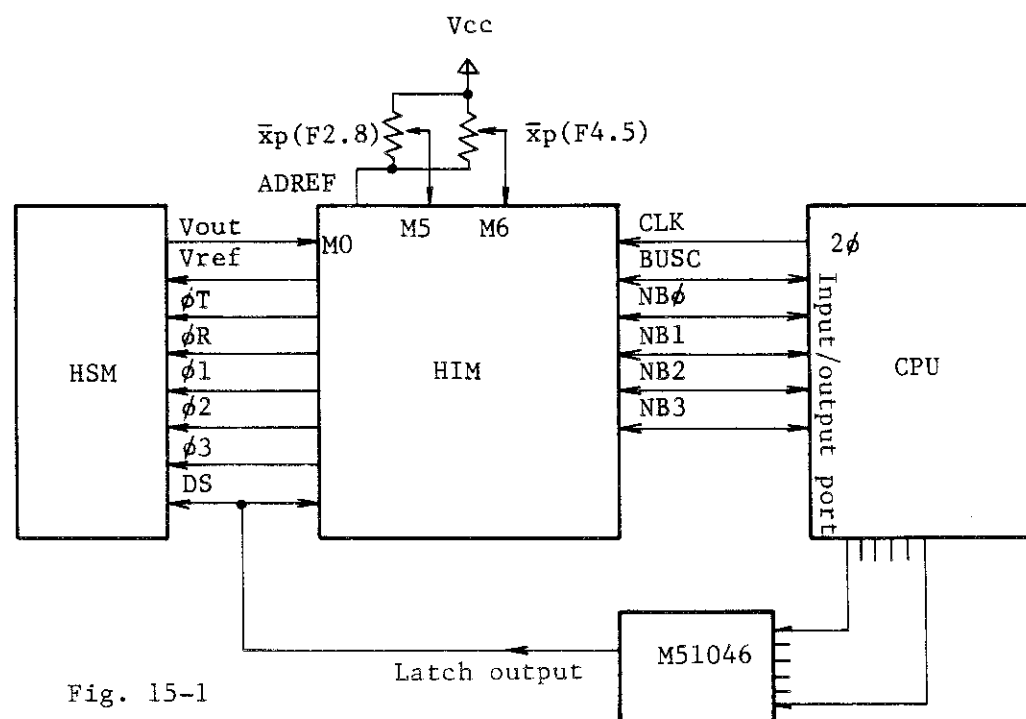

Fig. 15-1
15. Defocus amount detecting circuit (Fig.15-1)